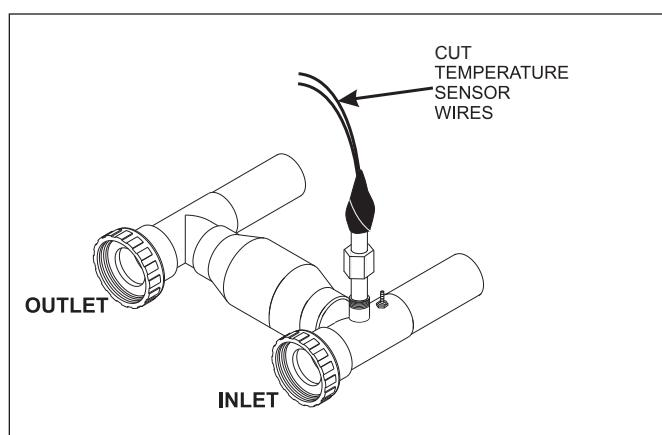

Figure 3. Location of Water Sensor (Older Models)
- Cut the water sensor wires just past the cork tape. See Figure 3.